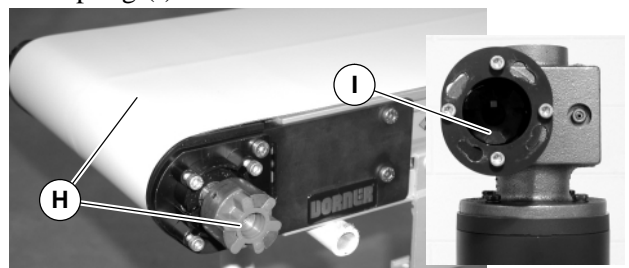

Figure 5
3. Rotate conveyor belt and attached conveyor coupling (H of Figure 5) to align with gearmotor coupling (I).